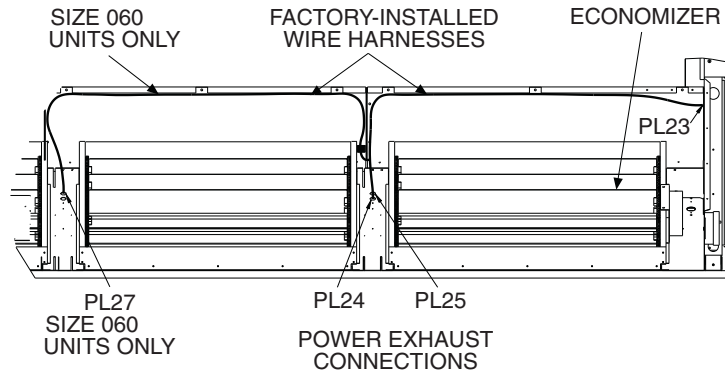

Fig. 7 — Wire Harness Plug Location
6. Connect the terminals on the end of the power harness wires to the auxiliary control panel terminal block as shown in Fig. 4-6. The other end of the 20-ft harness will be routed through the return/exhaust section of the unit to the economizer section. Remove the factory-installed power exhaust harness and plug(s) below the economizer (see Fig. 7) and replace with accessory harness and power exhaust plugs. Secure the harness in place so as not to interfere with the economizer or power exhaust.
7. Connect the terminals on the end of the power harness wires to the terminal block as shown. See Fig. 4-6. The other end of the 20-ft harness will be routed through the return/exhaust section of the unit to the economizer. Remove the factory-installed power exhaust harness and plug(s) below the economizer (see Fig. 7) and replace with accessory harness and power exhaust plugs. Secure the harness in place so as not to interfere with the economizer or power exhaust.